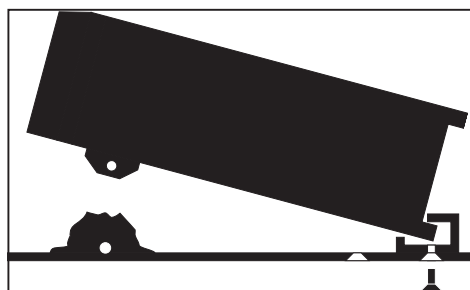

Figure 3-4 Fit the small bracket with the countersunk
- Fit the rubber feet according to Figure 3-4.